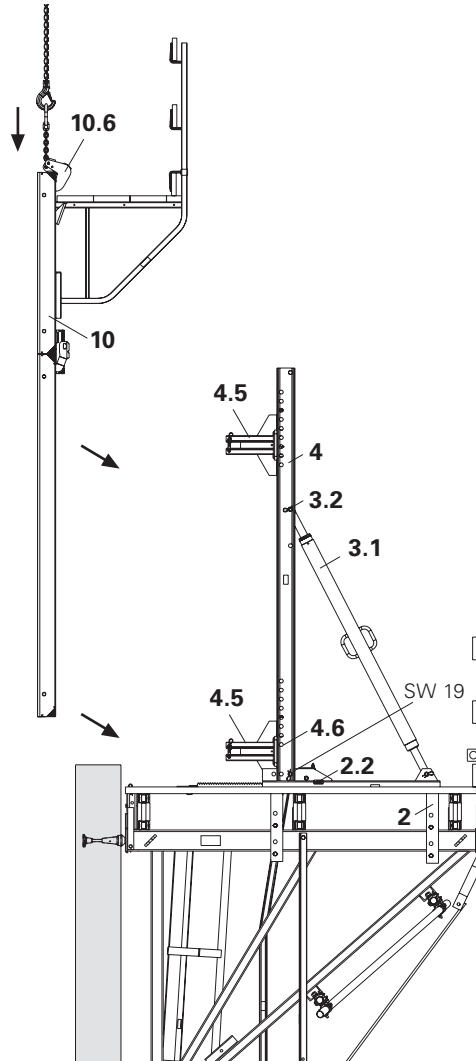

Fig. B2.21
1. Retract carriage (2) and secure with wedge (2.2), see B4.1.
2. Fix Connector CB (4.5) to the Strongback CB (4) using bolts $\varnothing 25 \times 180$ and cotter pins (4.6).
3. Mount Strongback CB (4) to carriage (2) using bolts $\varnothing 25 \times 180$ and cotter pins (4.6).
4. Attach Adjustable Brace (3.1) to Strongback using bolts $\varnothing 25 \times 180$ and cotter pins (3.2), and laterally brace strongbacks. (Fig. B2.21)